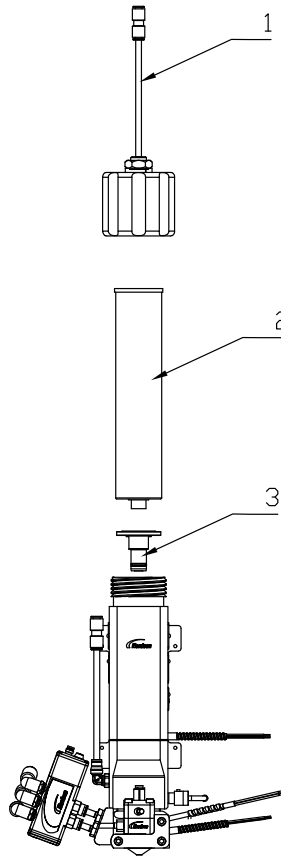

Figure 12 Loading a flush cartridge – PURJet 300XT
1. Load a flush cartridge in the applicator as follows (See Figure 12):
- a. Remove the caps from both ends of a 300-cc flush cartridge (2).
- b. Install the check valve (3) on one end of the cartridge.
- c. Remove the applicator end cap (1).